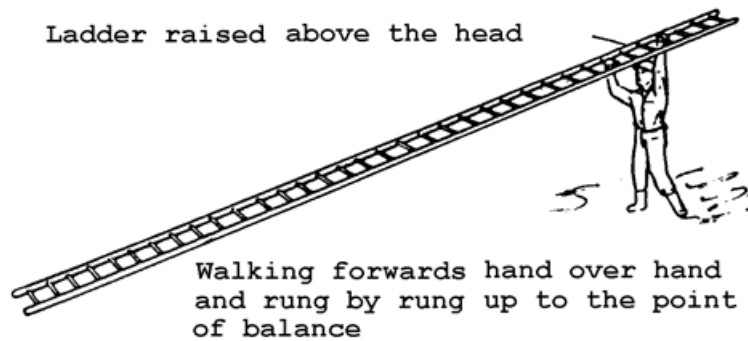

FIG 24.
- Raise the ladder above the head and walk forward hand over hand from one rung to the next. (Fig 24)